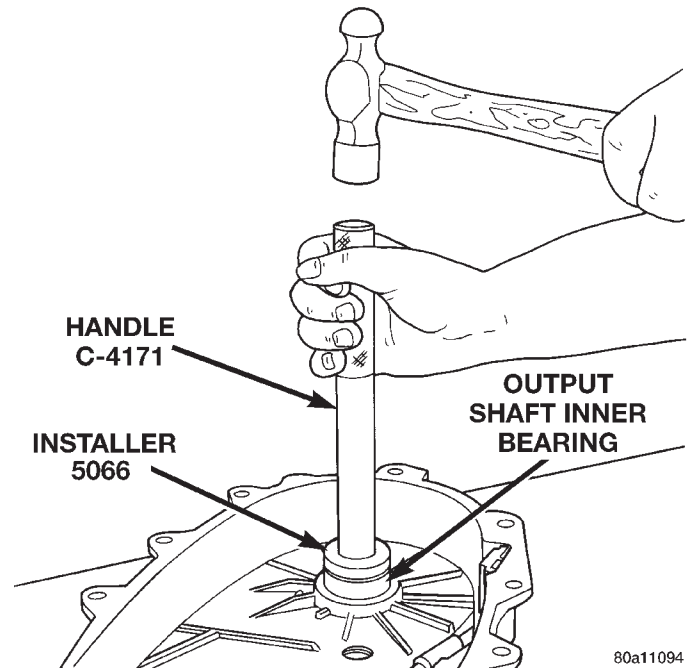
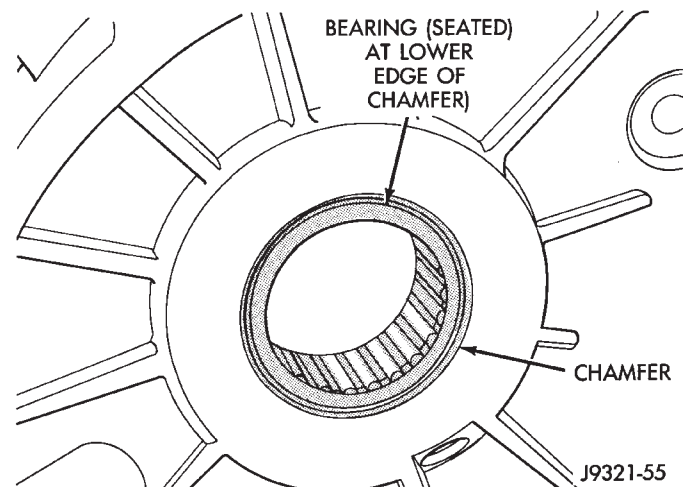

Fig. 45 Output Shaft Rear Bearing Installation
Fig. 46 Output Shaft Rear Bearing Installation Depth
(8) Install new bearing with Tool Handle C-4171 and Installer 5066 (Fig. 45). **The bearing bore is chamfered at the top. Install the bearing so it is flush with the lower edge of this chamfer (Fig. 46).**